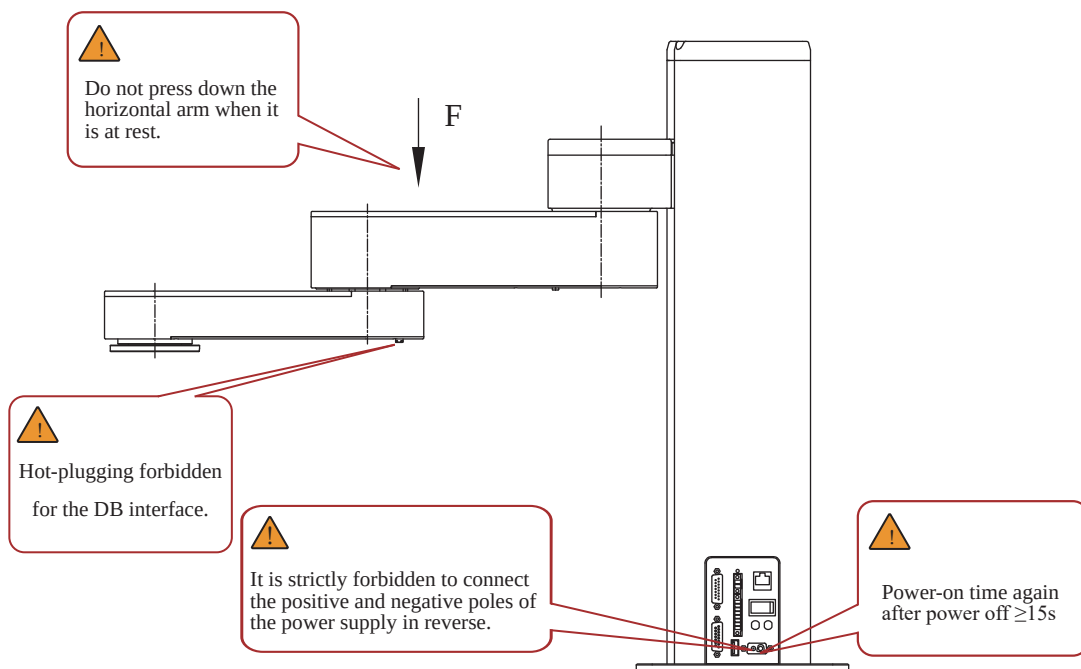

Figure 12
6.Do not press down the horizontal arm when the power is off (as shown in Figure 12).